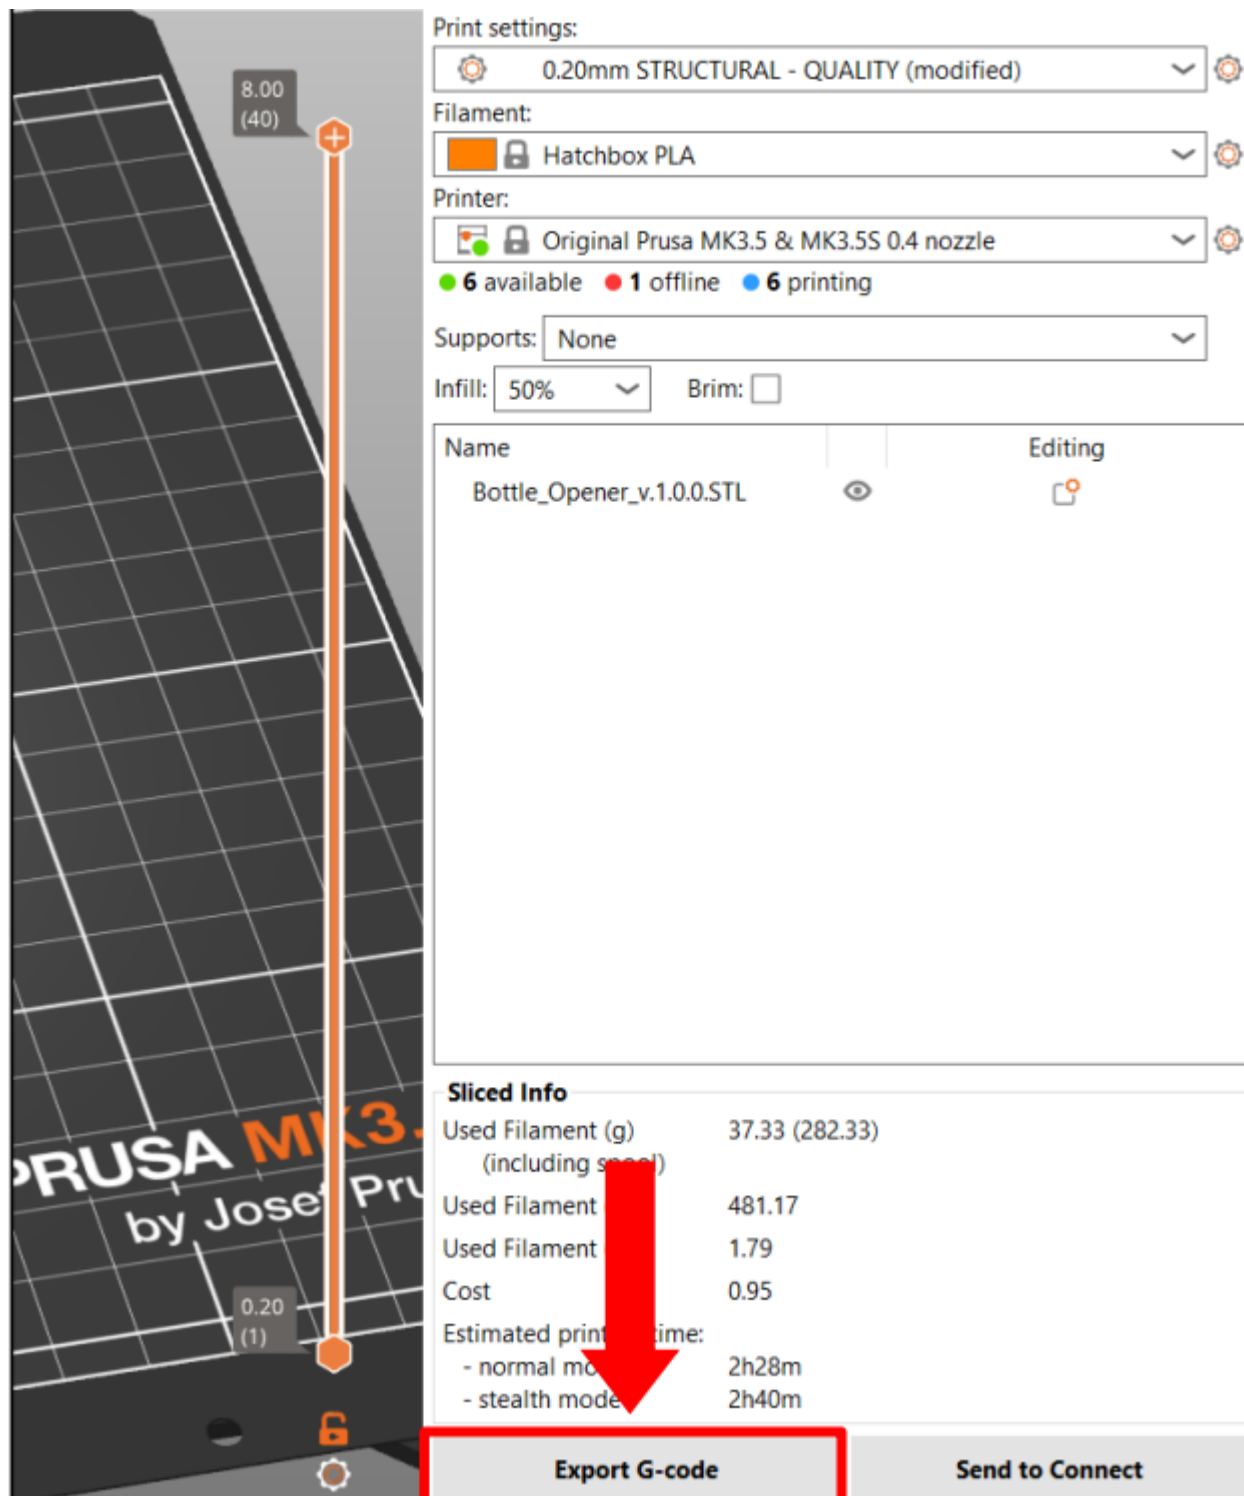

Figure 5
9.) Once the slicing is finished, click "Export G-code" (see Figure 5) and save the G-code to a flash drive